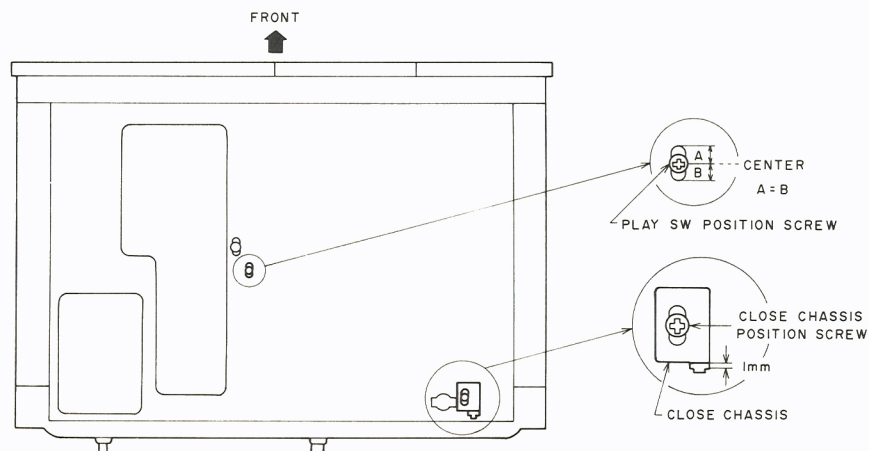

Fig. 6-7 Play SW/Close Chassis Position ADJ (Bottom View)
6-9 PLAY SW (SW902) POSITION ADJUSTMENT (Refer to Fig. 6-7)
- 2) Tighten the Play SW Position Screw in the center of the screw hole as shown in Fig. 6-7.
6-10 CLOSE CHASSIS (FOR CLOSE SW: SW2 on LIMIT PCB) POSITION ADJUSTMENT (Refer to Fig. 6-7)
- 2) Tighten the Close Chassis Position Screw in the position in which there is 7 mm distance between the Close Chassis and the hole on the Bottom Cover as shown in Fig. 6-7.